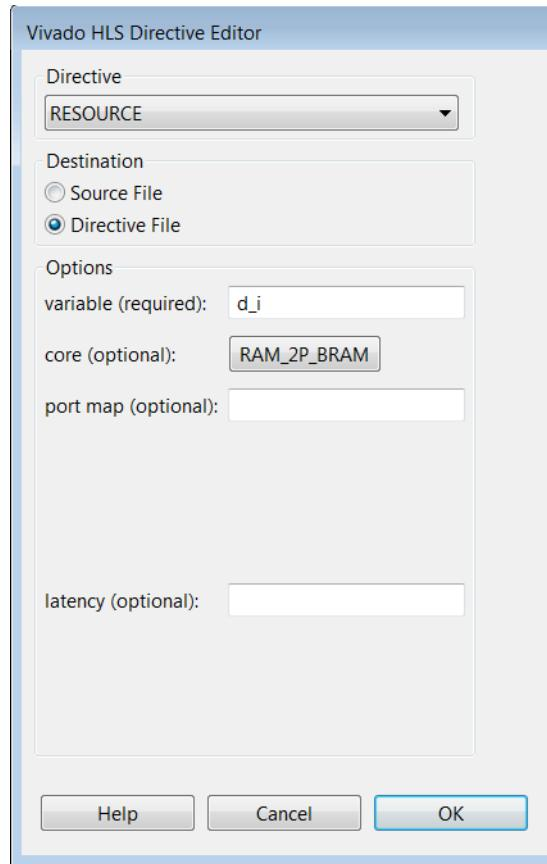

Figure 4-19: Directives Editor for Specifying a Dual-port RAM
- c. Verify that the settings in the Directives Editor dialog box are as shown in Figure 4-19 and click **OK**.